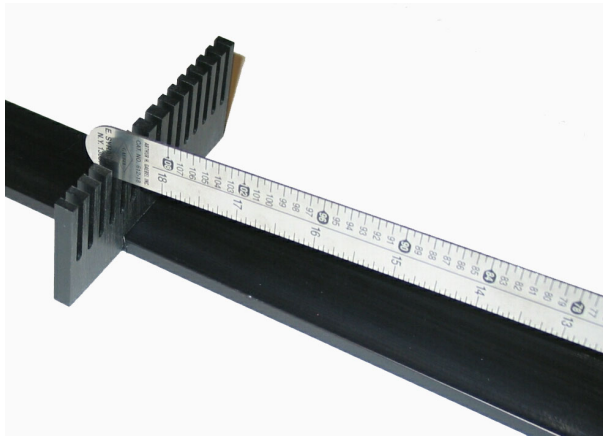

Figure 4.7: Flexible Link Tip Displaced by 1 inch in the Counter-clockwise Direction
6. **Gain adjustment:** The strain gage should read 1 V per 1 inch of tip deflection. Each slot or tooth in the calibration comb corresponds to a tip displacement of $\frac{1}{4}$ inch. Move the tip 4 slots in the counter-clockwise direction as shown in Figure 4.7. The strain gage measurement should be reading 1 V. If not, gently adjust the **GAIN** potentiometer until it reads 1 V.